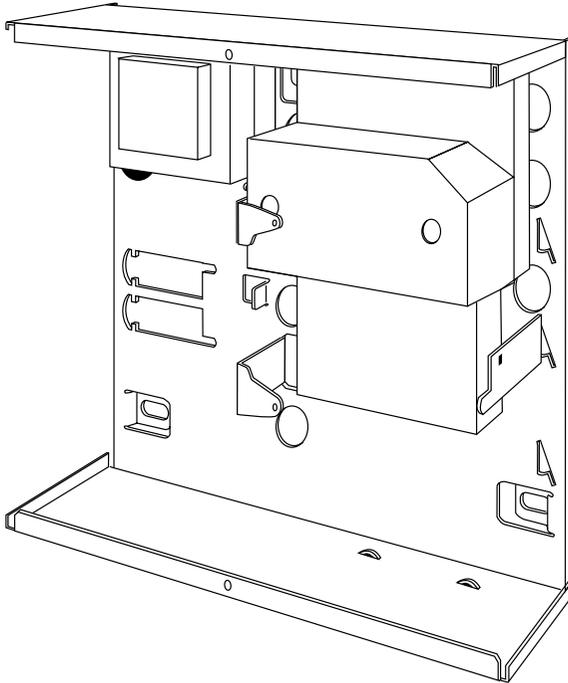

Figure 20. Fitting a Communicator
3. Fit the communicator between the PCB support pillars, making sure that the main PCB can fit back into position (see Figure 20).